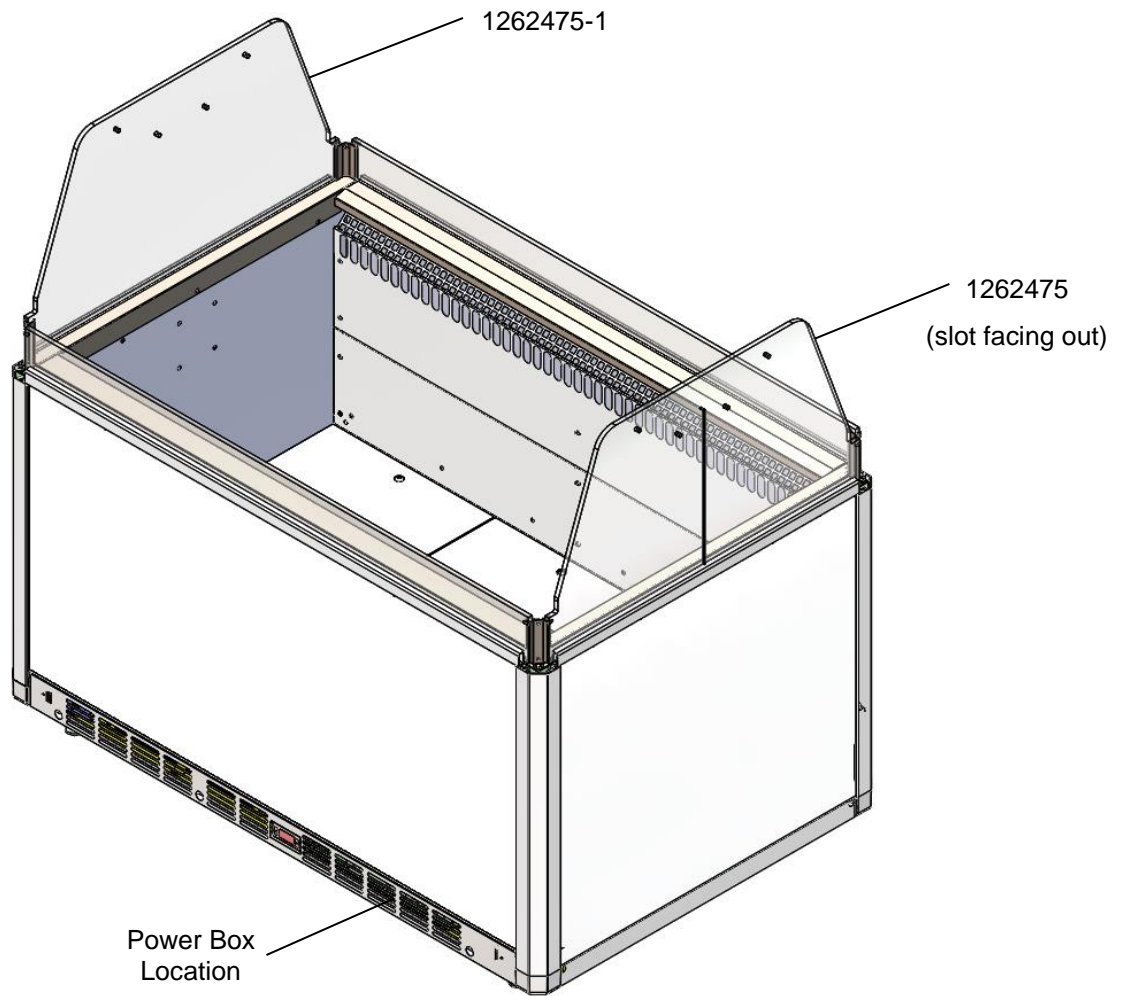

FIGURE 2
- Step #6** Install the new side panels (1262475 and 1262475-1) into existing NIC unit. Note: The side panel with the slot (1262475) should be on the side closest to the power box with the slot oriented to the outside of the unit (See Figure 2)
Step #9 Expose the power box assembly from the NIC unit. (See Figure 2 for location)